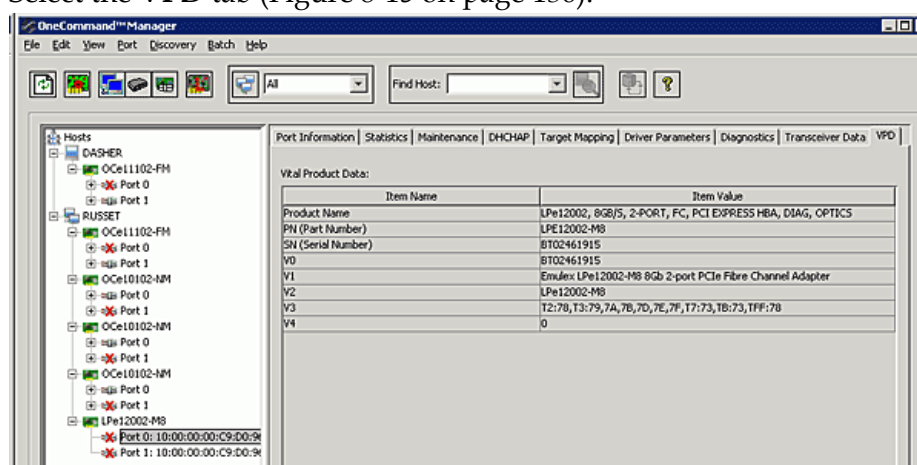

Figure 8-15 FC/FCoE VPD Tab
The VPD tab (Figure 8-15 on page 136) displays vital product data (if available) for the selected FC adapter port such as the product name, part number, serial number, and so on.
3. Select the **VPD** tab (Figure 8-15 on page 136).